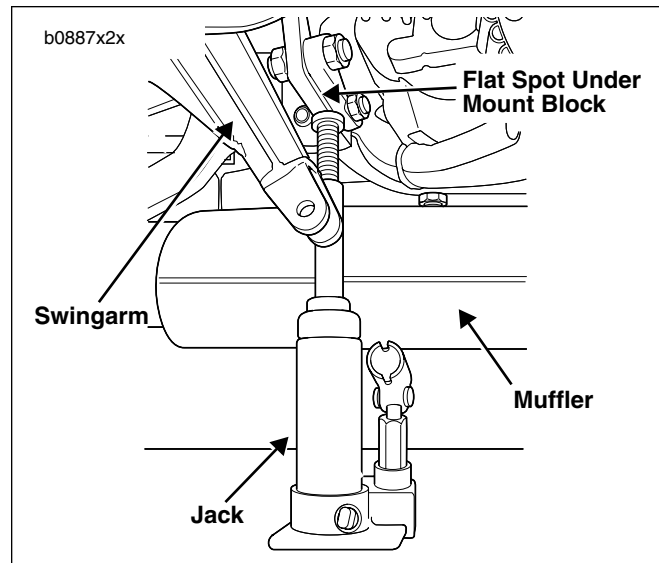

Figure 1. Jack Location on Mount Block (Shock Removed for Clarity)
3. See Figure 1. Place a suitable jack under the swing arm mount block and raise until crankcase is supported by jack.